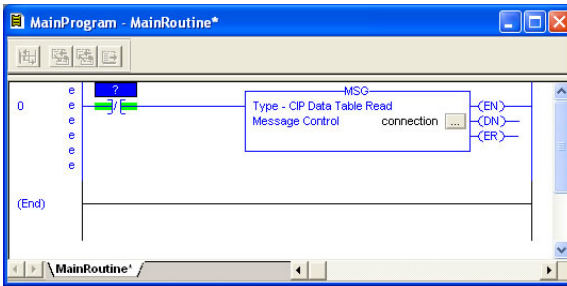

Figure 103: MainRoutine
- e) Click “OK” to close the MSG Configuration dialog. At this stage, MainRoutine should look like Figure 103.